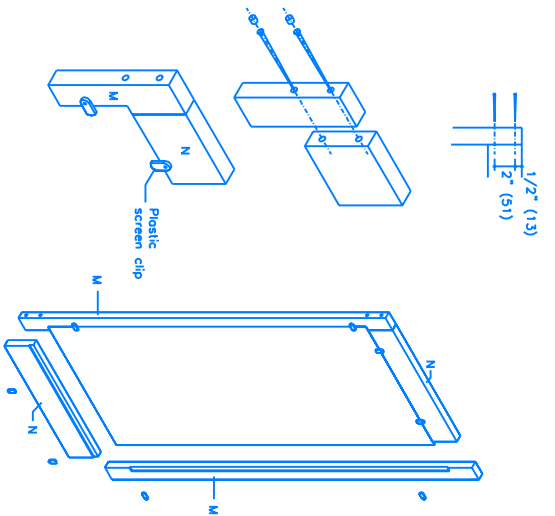

FIGURE 4
- 3) Drill four 1/8" holes into each M as shown (Fig. 4). Countersink with a 1/4" drill bit about 3/4" deep. Place N next to M and drill through the M. Previously drilled holes, into N with a 1/8" drill bit. Attach hardware screws. Ensure that the frame is square and set aside for glue to set for two hours. Repeat for second door. After they have set and dried, insert and glue 1/4" dowel plugs into the countersink holes. Cut and sand the plug smooth. Place the hinge and doorframe into the cabinet to dry fit for clearance, you may have to trim the door slightly. Insert the glass panels and attach each panel with eight plastic screen clips. Attach the handles according to manufacturer's instructions. Attach the piano hinge to M with the hinge pin just protruding 1/8" beyond the face of the door.